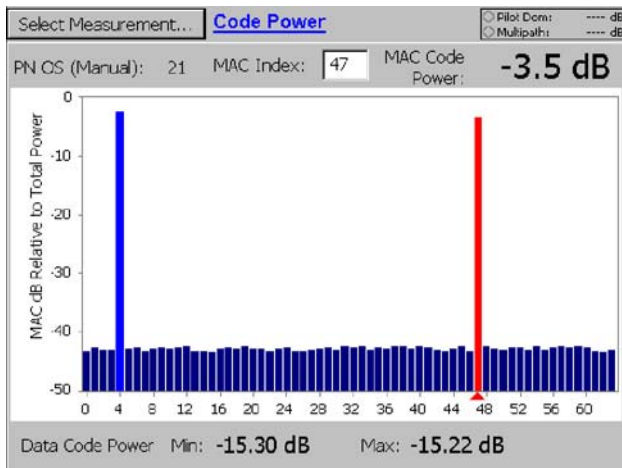

Figure 3-51: 1xEV-DO Code Domain Power display
5. Tap **Code Power**. See Figure 3-51.